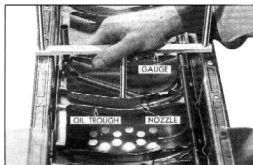

Fig. 37—Checking Oil Trough Depth
1. Check the oil trough height with the oil trough depth gauge, J-969-2, by placing the bar of the gauge on the pan rail. The stem of the gauge should just touch the edge of each of the six oil troughs, Fig. 37.